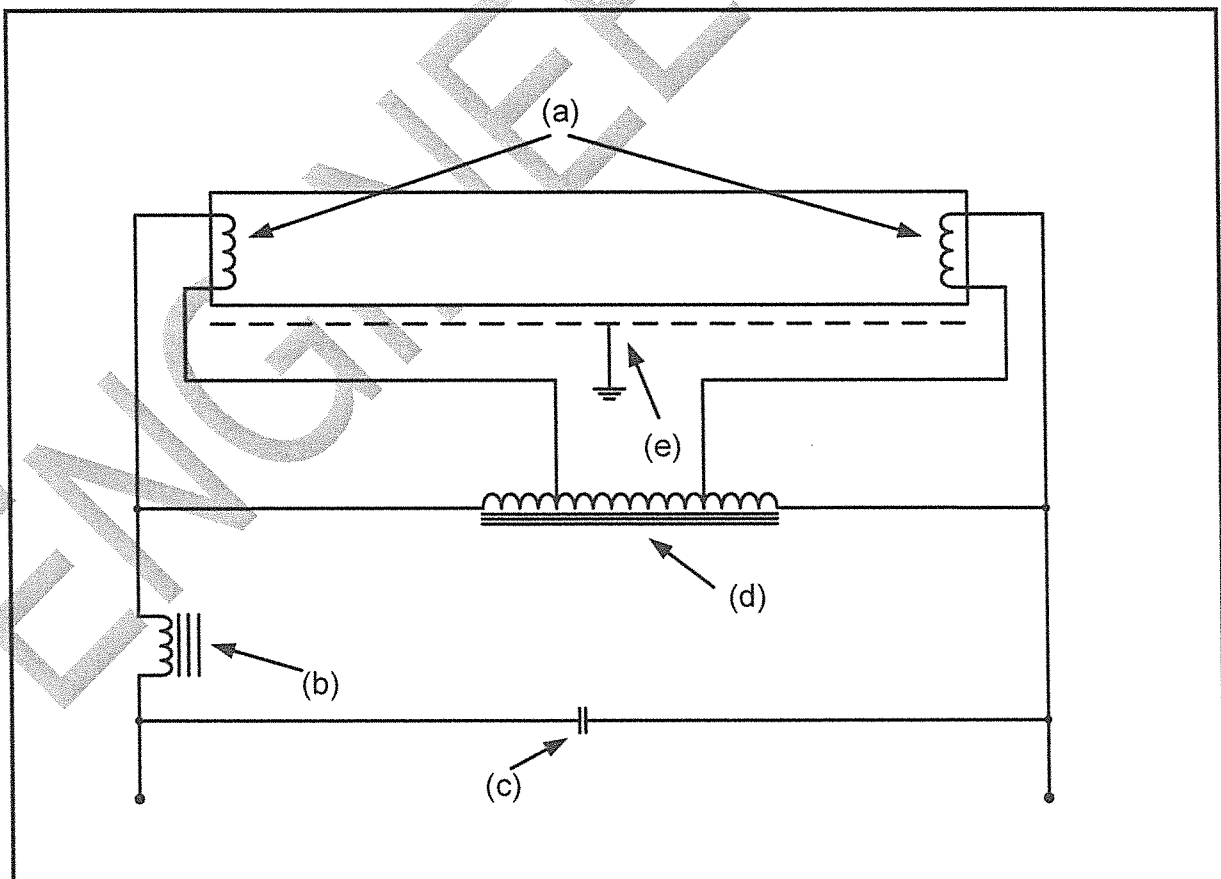

FIGURE 2.1: LIGHT FITTING
3.4 Study the circuit below in **FIGURE 2.1**. Label the parts numbered (a) – (e) in your answer script.